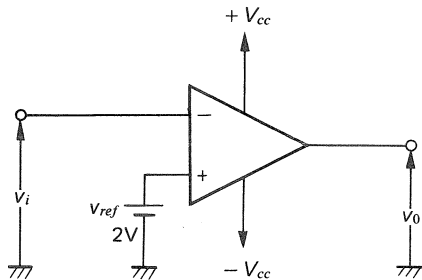

Fig. 12 Comparator
So far, we have discussed op amps with a negative feedback (NF) loop. What will happen when the NF loop is open. Fig. 12 shows the basic circuit of a comparator.
A reference level (v_{ref}) is applied to either of the input terminals and the voltage to be compared, v_i , is applied to the other terminal. The input signal level (or phase) is compared with the reference voltage. In Fig. 12, a reference voltage is applied to the (+) terminal, and the signal to be compared is applied to the (-) terminal. If the gain of the amplifier is 10^6 , v_{ref} is 2V and v_i is 2.01V.